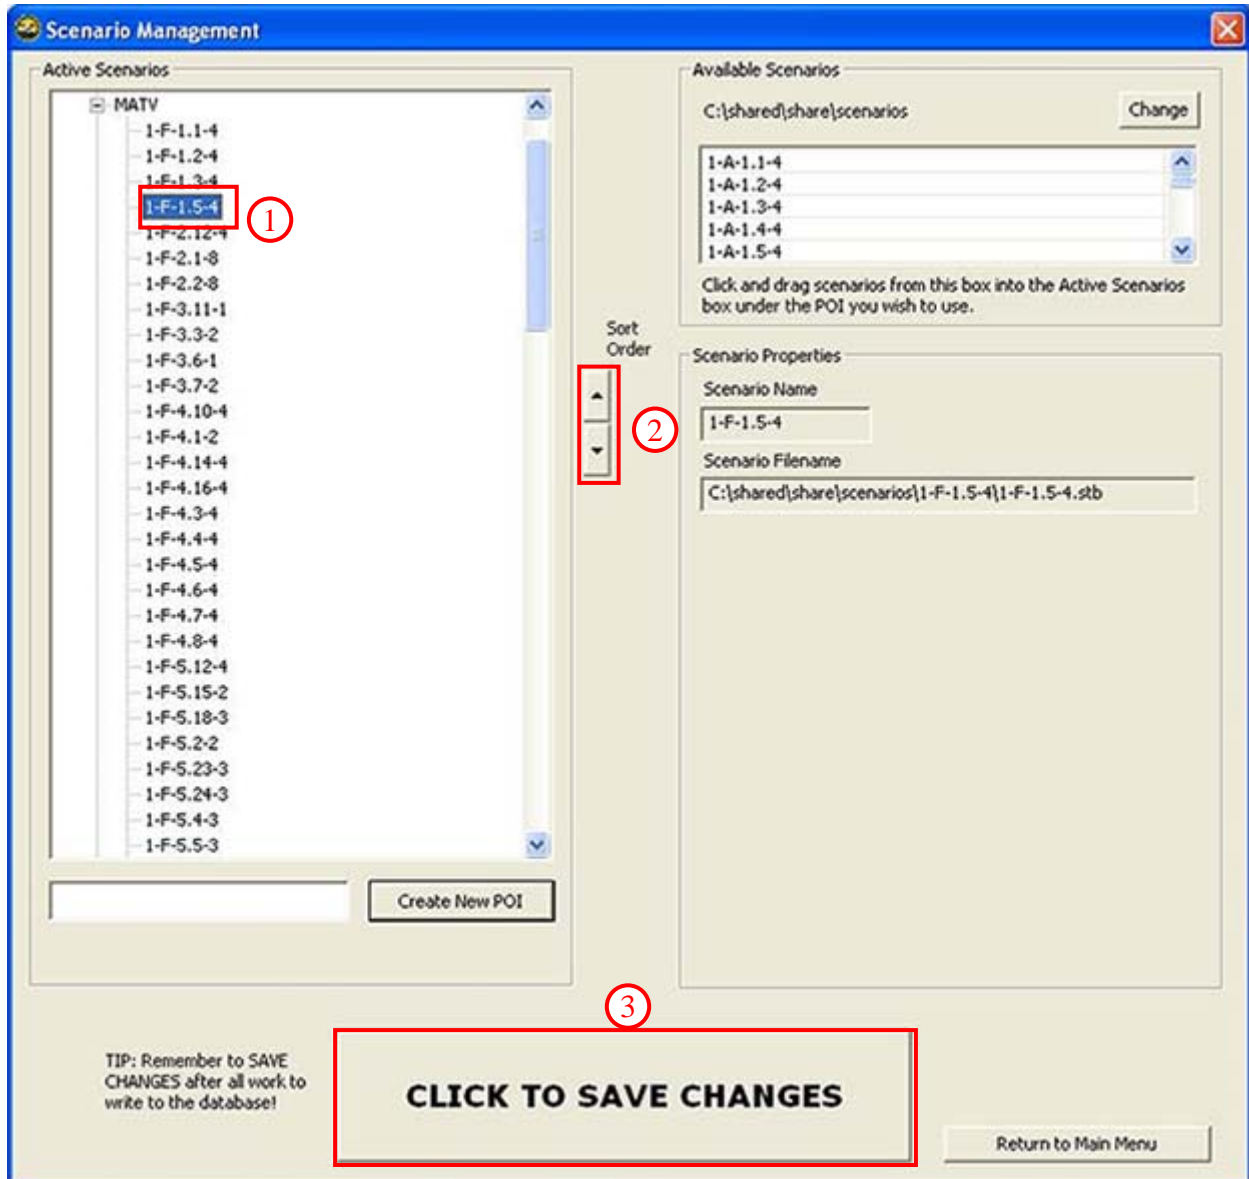

Figure 75. Scenario Management - Sorting Scenarios
1. To change the order of a scenario within the POI list, select the scenario (Figure 75).